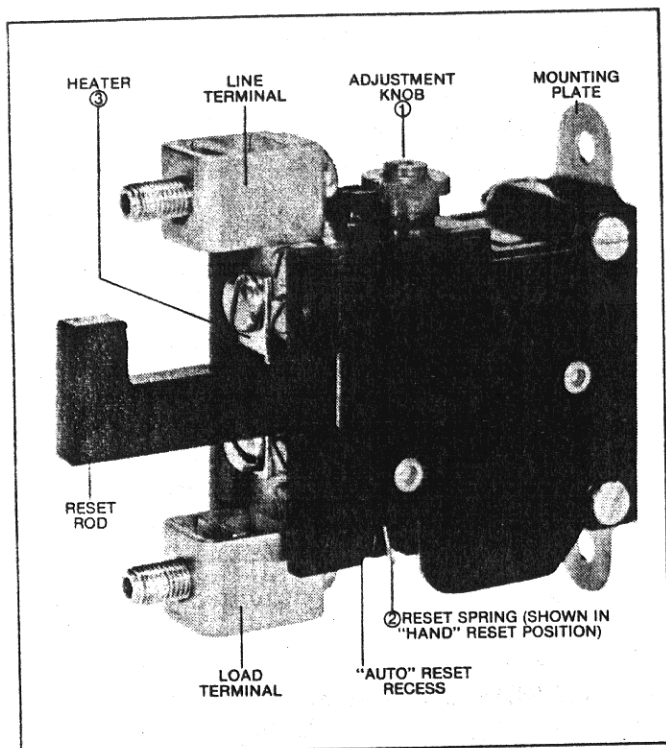

Fig. 1 Size 4 Overload Relay for Panel Mounting
The strip bimetal in the OLR is indirectly heated by the replaceable heater element (Item 3 in Figure 1) which carries the motor current. Excess heat is generated in this heater element by an overloaded motor. The heated bimetal deflects to open the normally closed contact, thereby opening the coil circuit of a magnetic contactor which disconnects the overloaded motor from the line. After approximately 2 minutes, the relay if hand reset may be reset by pressing the reset rod. For relays in the auto position, resetting occurs automatically.
The overload relay is normally furnished set for "HAND" reset operation. The relay may be set for either "HAND" or "AUTO" reset by positioning the reset spring (2) in the proper marked recess in the molded case as shown in Figure 1.